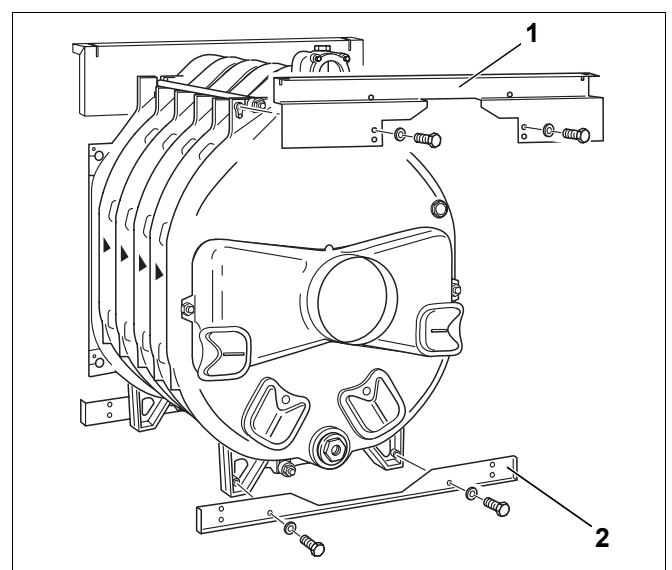

Fig. 31 Installation of the rear support brackets
- Secure the upper rear support bracket (Fig. 31, **Item 1**) on the cast lugs and with screws (M 8 x 15) on the rear section. The edge of the front upper support bracket must point **to the front**.
- Secure the lower support bracket (Fig. 31, **Item 2**) with two screws (M 8 x 15) to the feet of the rear section. The edge of the lower support bracket must point to the rear.